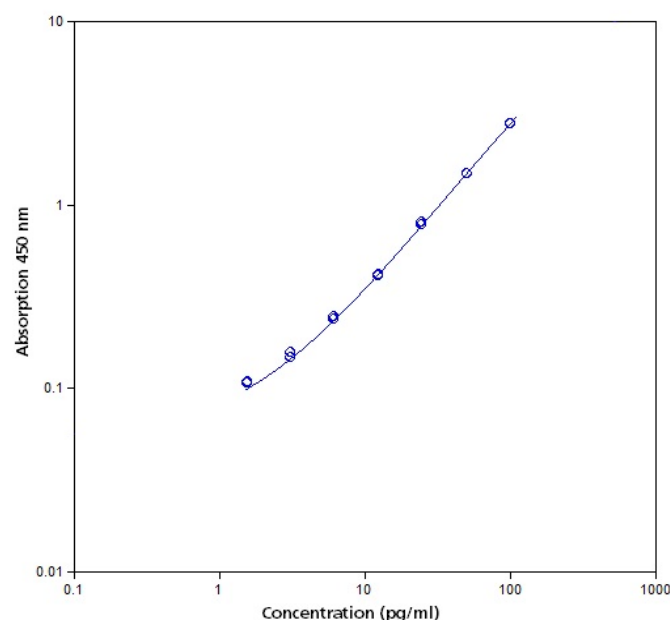

Fig. 9 Representative standard curve for human MICA ELISA. Human MICA was diluted in serial 2-fold steps in Sample Diluent.
- A representative standard curve is shown in Figure 9.